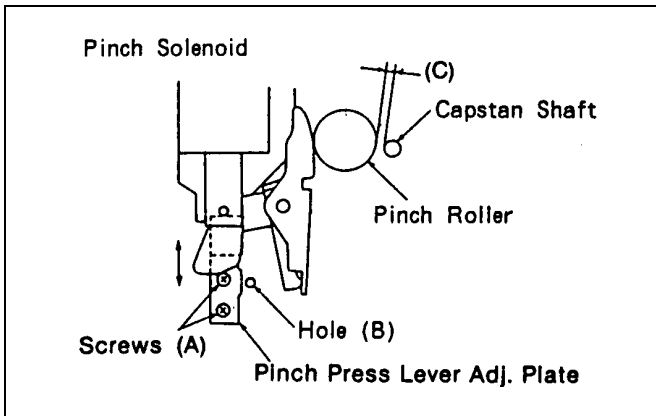

Figure 7-11-4 Pinth Press Lever Adjustment
3. Loosen 2 screws (A) and insert eccentric screwdriver (VFK0358) into hole (B) as shown in figure 7-11-4.
4. Turn eccentric screwdriver so that the clearance (C) is $1.1 \pm 0.1\text{mm}$ as shown in figure 7-11-4.
5. Tighten 2 screws (A).